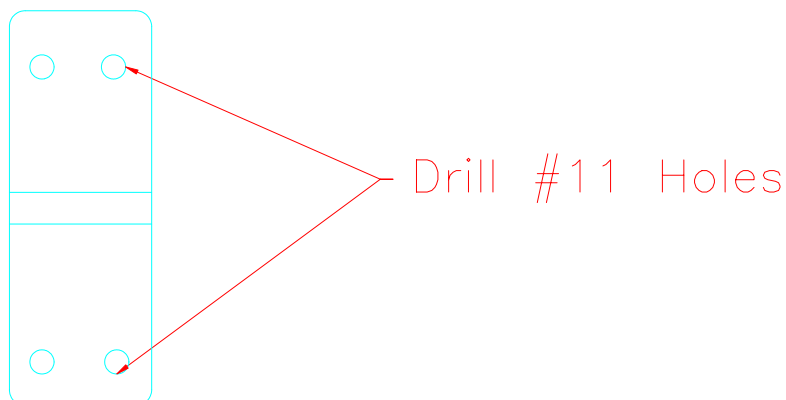

Figure 15.5.4
- 5) Drill four #11 holes through the elevator stop (CC-67) into the carrythroughs (FUS-5). Figure 15.5.4.